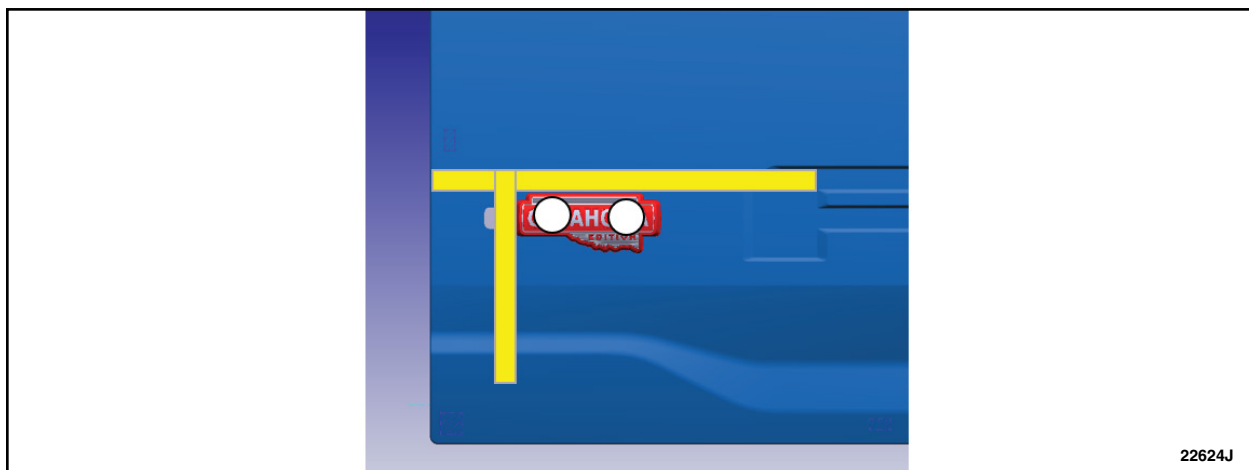

FIGURE 13
42. Remove the tape liner from the back of the badge and install to the door using the locating tape to properly align the badge. See Figure 13.
43. Using medium hand pressure, press for 3 seconds at a minimum of 2 separate locations along the length of the badge until the tape is fully adhered. See Figure 13.